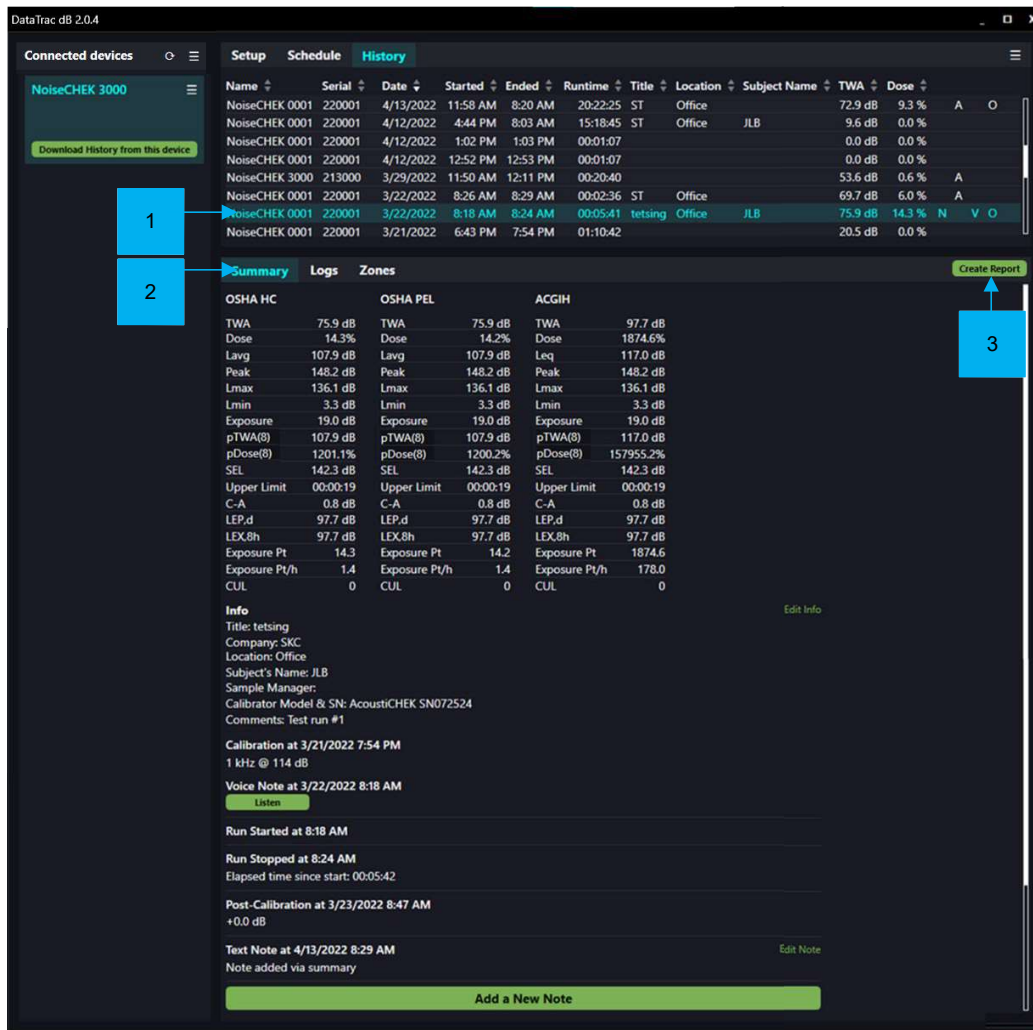

Figure 10. Summary
### Summary – Viewing, Editing, and Reporting Data (Figure 10)
1. **In Summary:** Click Add a New Note (see Figure 10).